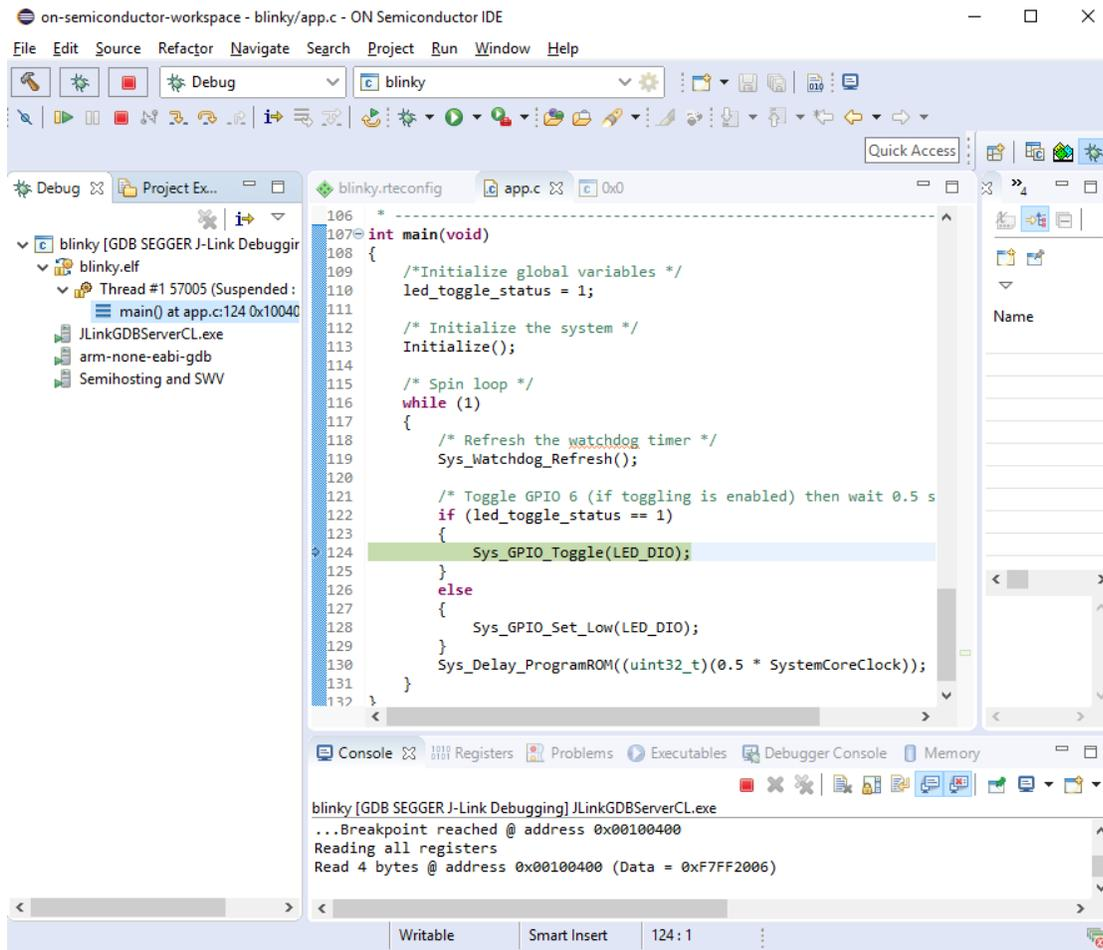

Figure 11. Debug Perspective
6. The Debug perspective opens and the application runs to *main*, as shown in Figure 11. You can press F6 multiple times to step through the code and observe that the LED changes its state when the application executes the function `Sys_GPIO_Toggle(LED_DIO)`.